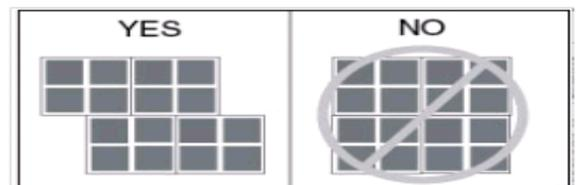

Fig. 10
9. Begin the second row of planks with the piece cut from the last piece in the first row. If the piece is shorter than 8" (20.32 cm), cut a new plank in half and use it to begin the second row. Whenever practical, use the piece cut from the preceding row to start the next row. End joints of all boards should be staggered 8" (20.32 cm) or more. Grout lines on planks with tile visuals can be aligned, or off-set as long as end joints are staggered (Fig. 10).